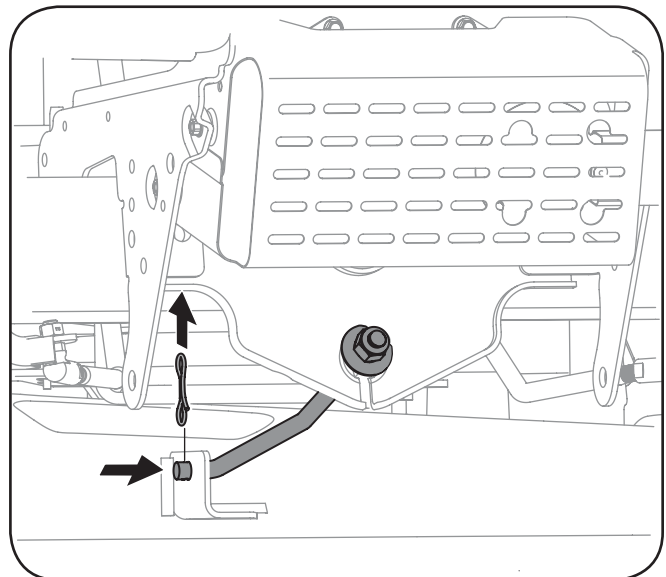

Figure 7-3
8. Remove the bow-tie cotter pin and flat washer securing the deck stabilizer rod to the deck. Slide the deck lift rod from the mounting weldment on the deck as seen in Fig. 7-3.